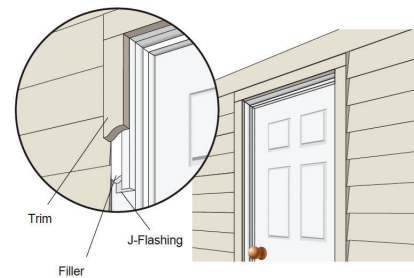

Figure 6a
2. Install Hardie® trim as shown in Figs. 6a thru 6e and as per installation instructions.